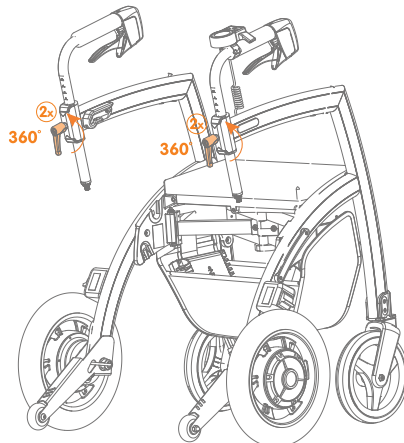
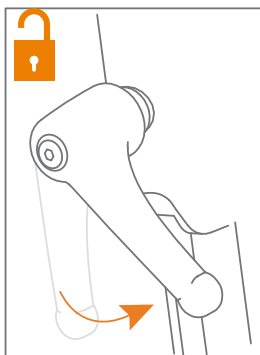

Figure 19: Loosen the adjustment handles.
Figure 20: Rotate anticlockwise.
- b. Loosen the adjustment handles anticlockwise (**Figure 19**) and (**Figure 20**).